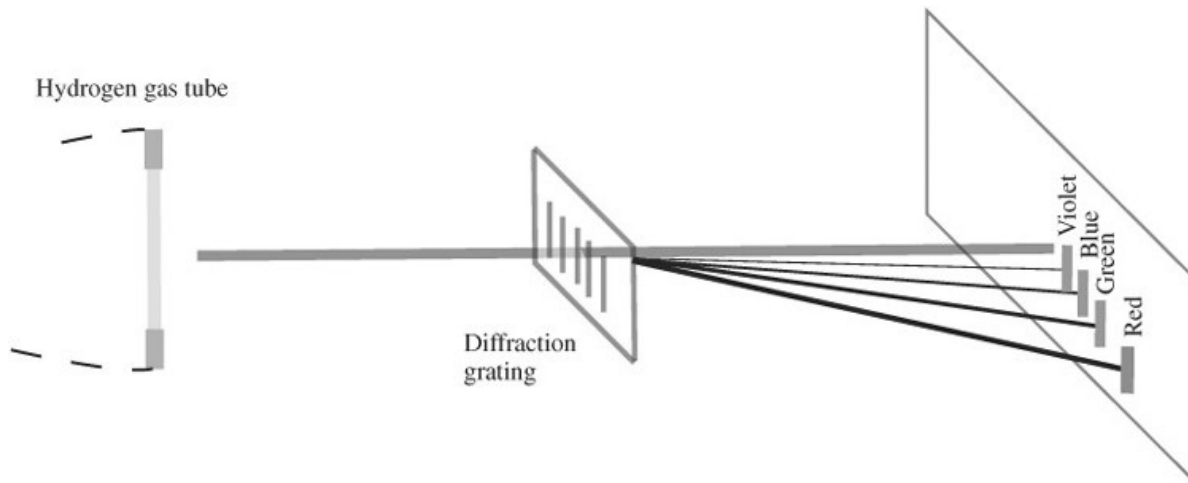

Figure 120-1 *Measuring the spectrum of the hydrogen atom.*
5. Hold a diffraction grating with the scribed lines parallel to the tube in front of your eyes, as indicated in Figure 120-1.